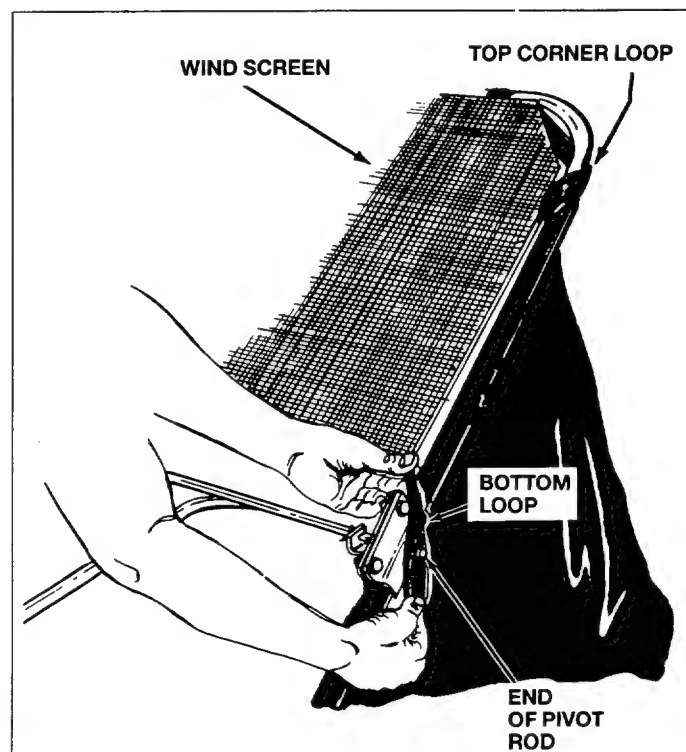

Fig. 27
17. Assemble the wind screen over the top of hopper bag frame by simply hooking the top corner loops and pull the bottom loops down over the ends of the pivot rod. See figure 27.